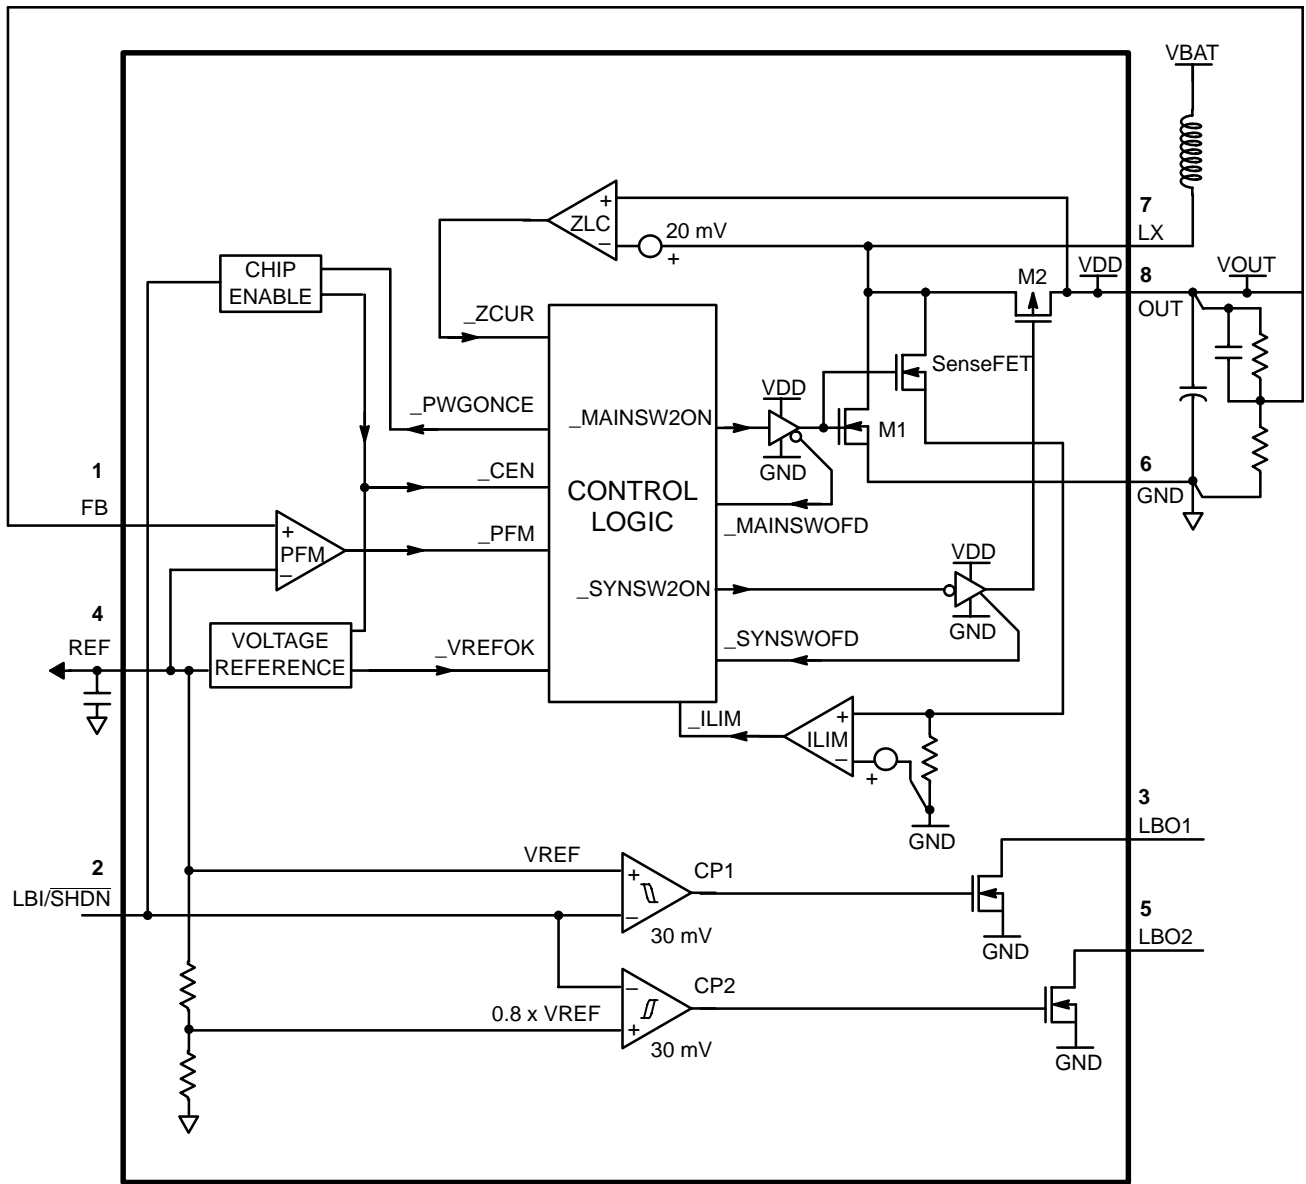

Figure 2. Simplified Functional Diagram
From the simplified Functional Diagram (Figure 2), the output voltage is divided down and fed back to pin 1 (FB). This voltage goes to the non-inverting input of the PFM comparator whereas the comparator's inverting input is connected to REF. A switching cycle is initiated by the falling edge of the comparator, at the moment, the main switch (M1) is turned ON. After the maximum ON-time (typical 1.4 μ S) elapses or the current limit is reached, M1 is turned OFF, and the synchronous switch (M2) is turned ON. The M1 OFF time is not less than the minimum OFF-time (typical 0.25 μ S), this is to ensure energy transfer from the inductor to the output capacitor. If the regulator is operating at continuous conduction mode (CCM), M2 is turned OFF just before M1 is supposed to be ON again. If the regulator is operating at discontinuous conduction mode (DCM), which means the coil current will decrease to zero before the next cycle, M1 is turned OFF as the coil current is almost reaching zero. The comparator (ZLC) with fixed offset is dedicated to sense the voltage drop across M2 as it is conducting, when the voltage drop is below the offset, the ZLC comparator output goes HIGH, and M2 is turned OFF. Negative feedback of closed loop operation regulates voltage at pin 1 (FB) equal to the internal voltage reference (1.190 V).
From Figure 2, SenseFET is applied to sample the coil current as M1 is ON. With that sample current flowing through a sense resistor, sense-voltage is developed. Threshold detector (ILIM) detects whether the sense-voltage is higher than preset level. If it happens, detector output signifies the CONTROL LOGIC to switch OFF M1, and M1 can only be switched ON as next cycle starts after the minimum OFF-time (typical 0.25 μ S). With properly sizing of SenseFET and sense resistor, the peak coil current limit is set at 1.0 A typically.